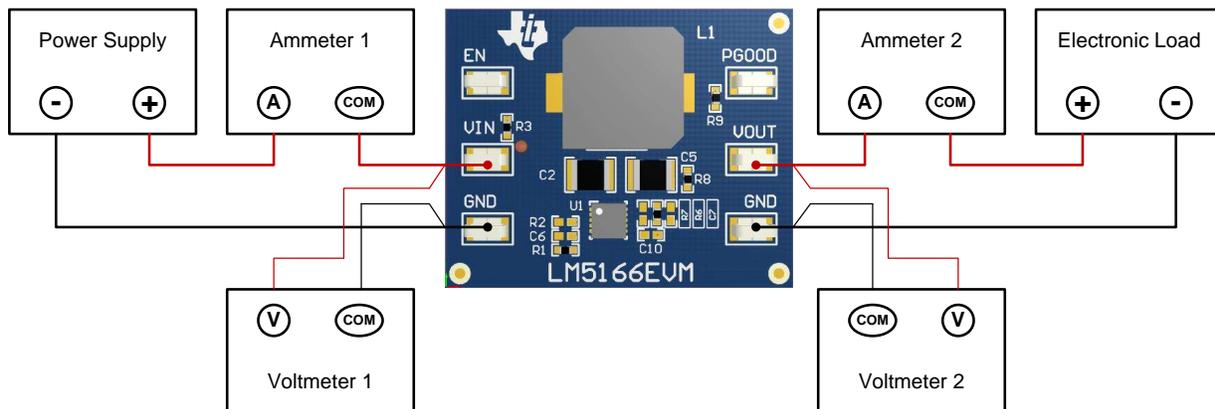

Figure 3. EVM Test Setup
Referencing the EVM connections described in Table 2, Figure 3 shows the recommended test setup to evaluate the LM5166EVM. Working at an ESD workstation, make sure that any wrist straps, boot straps or mats are connected referencing the user to earth ground before power is applied to the EVM.
- Prior to connecting the DC input source, it is advisable to limit the source current to 1 A maximum. Ensure the input source is initially set to 0 V and connected to the VIN and GND connection points as shown in Figure 3. An additional high-ESR, low leakage, input bulk capacitor (e.g. 47- $\mu$ F, 100-V Electrolytic capacitor) is recommended if long input lines are used.